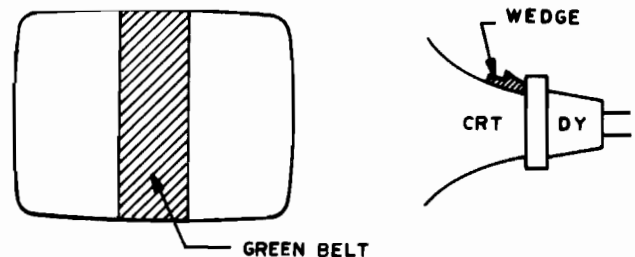

Figure 4 Video Image for Color Purity Adjustment
- 2.8 Pull the deflection yoke backward so that a green belt appears on the screen (see Figure 4).
- 2.17 Insert a wedge temporarily as shown in Figure 4; adjust the angle of the deflection yoke.